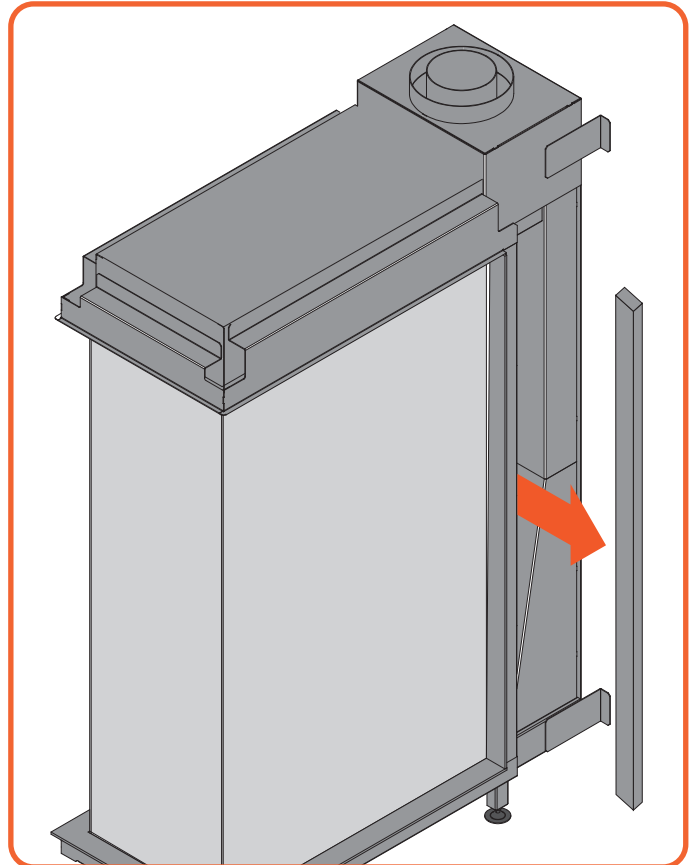
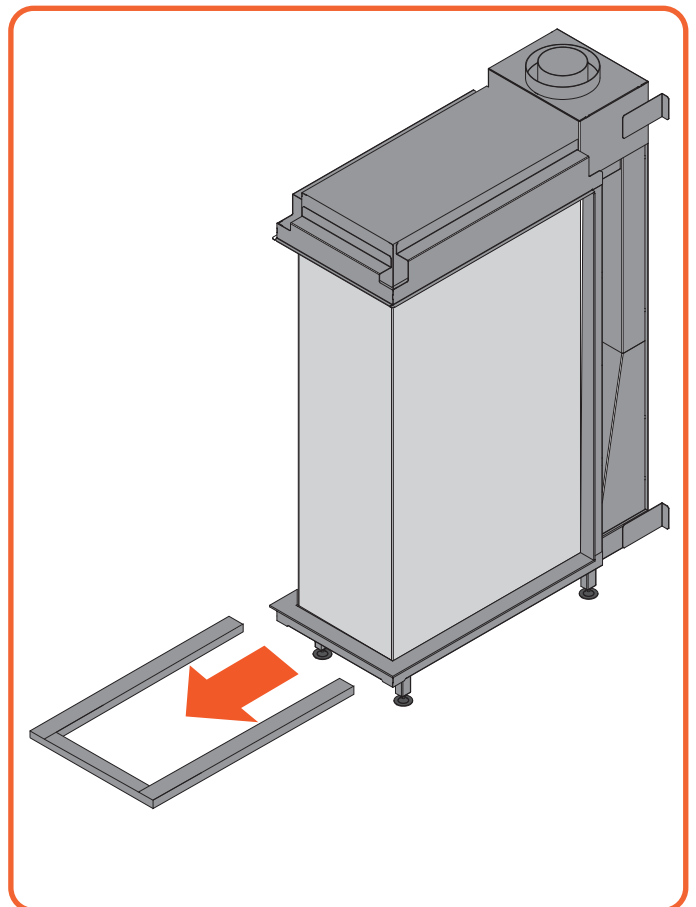

Figure 11.5 - Remove side trims
Figure 11.6 - Remove bottom trim
- Remove both the side trims and bottom trim. They are held by magnets, **Figure 11.5** & **Figure 11.6**.